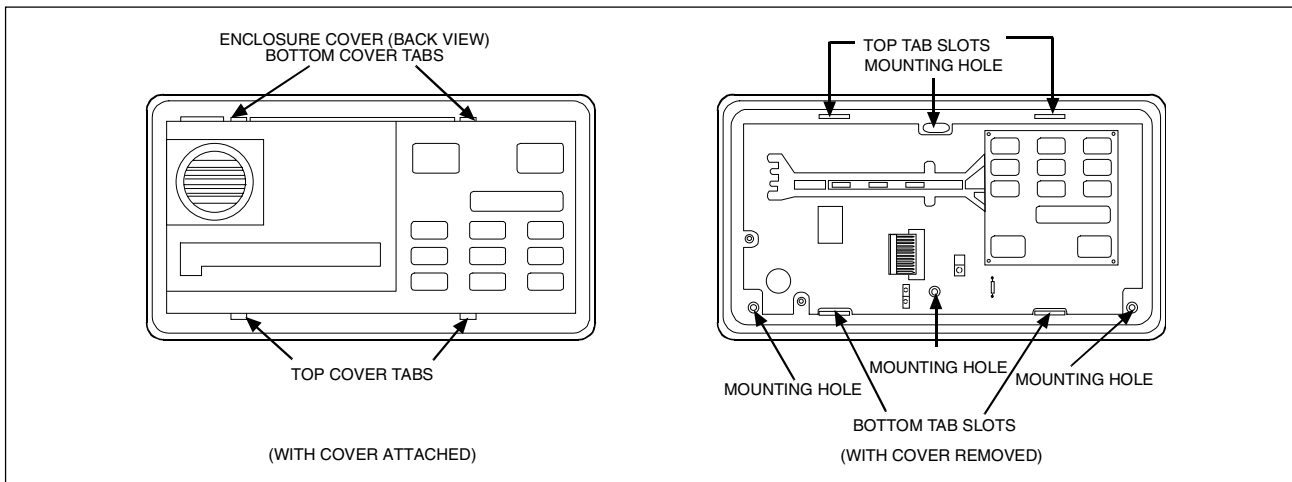

Figure 1: Installing the D279A
1. Remove the front cover from the enclosure base (see Figure 1 above). Use a small flat-blade screwdriver to gently push the two bottom cover tabs back. As the tabs are pushed back, lift the bottom of the cover away from the base. Remove the cover.